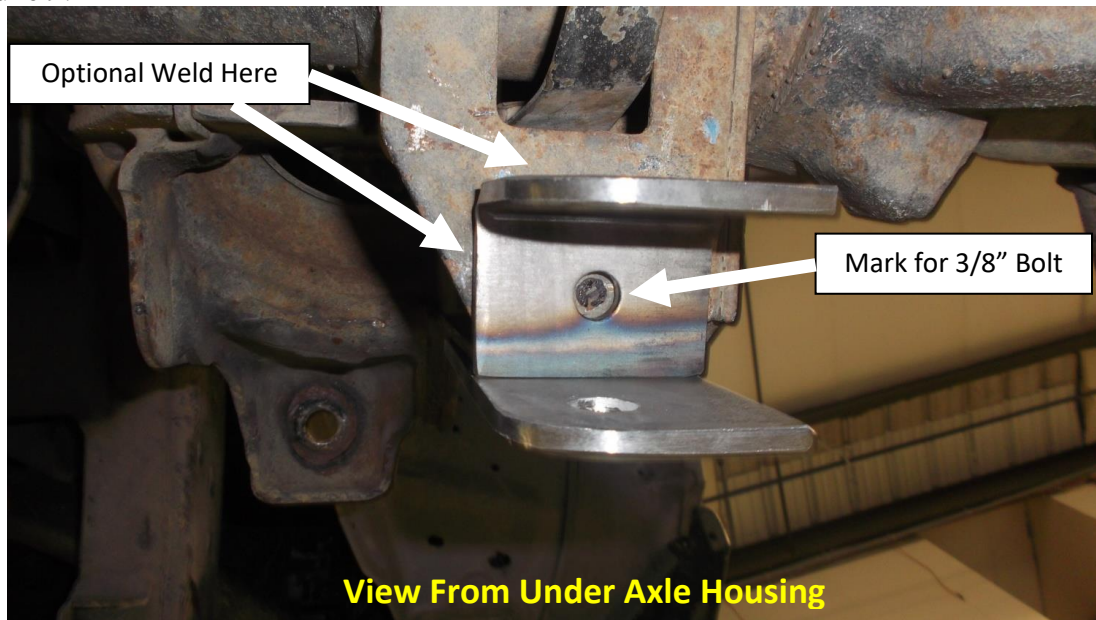

Figure 9. Where to Drill or Weld 8568-11 Bracket
- 12) The bracket can be welded or bolted on. If welding the bracket on, take note of the areas that need to be cleaned up for welding. If bolting the bracket on, mark the location of the bottom 3/8" bolt. See **Figure 9**.